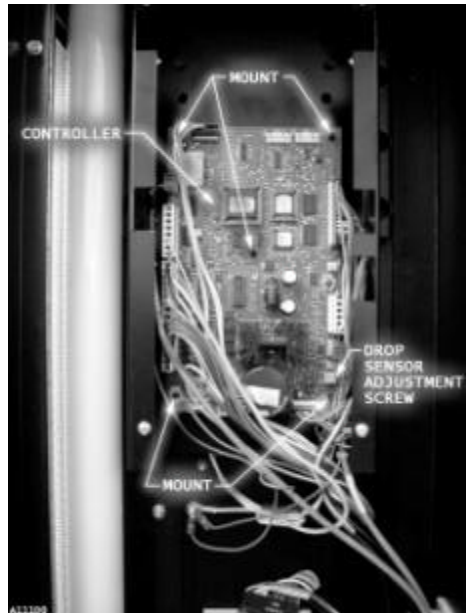

Figure 10a. Control Board Mounts
- a) Find the five (5) board mounts. See Figure 10a.
- b) Release the control board from the board mounts. Beginning with the top right corner of the control board, pinch the board mounts using a pair of needle-nose pliers and pull gently on the circuit board. Follow the same procedure to release the remaining four (4) board mounts.